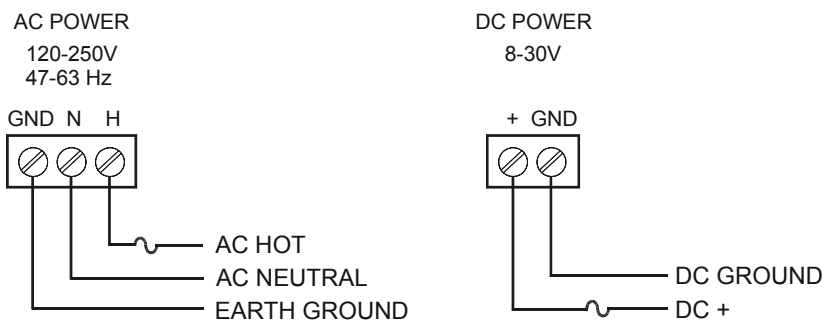

Figure 3. Power Connections
- Use three-terminal power connector as shown in Figure 3.
- Use two-terminal power connector as shown in Figure 3.